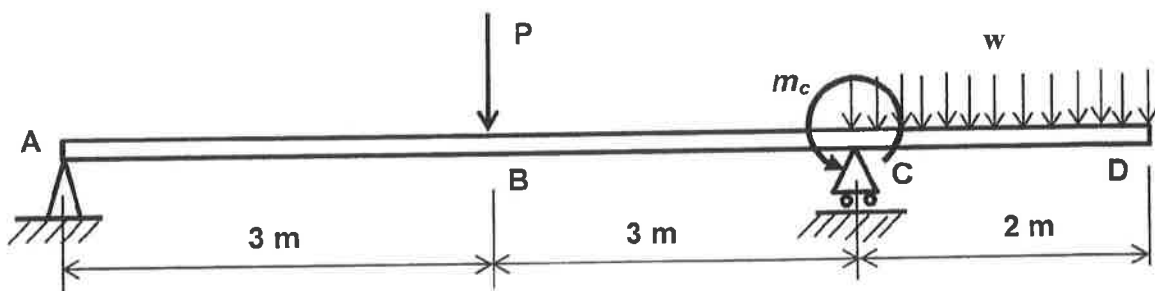

Figure Q11
11. A beam of uniform section shown in Figure Q11 has a length of 7 m and is simply-supported at points A and C. The beam carries a concentrated load $P = 18$ kN at B, a uniformly distributed load $w = 5$ kN/m on CD and an applied anticlockwise moment of 4 kNm at C. The flexural rigidity of the beam is $EI = 3 \times 10^4$ kNm².